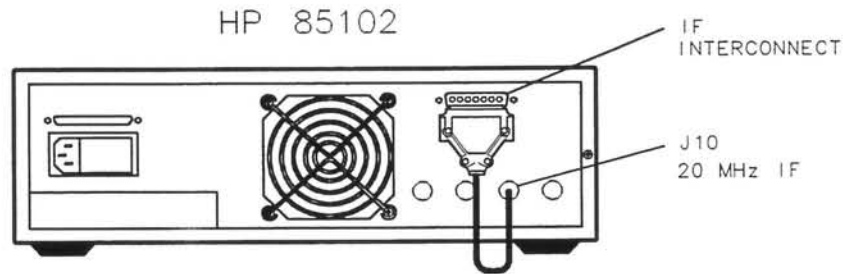

Figure 5-7. Service Adapter Connections
1. Connect the service adapter as shown in Figure 5-7.